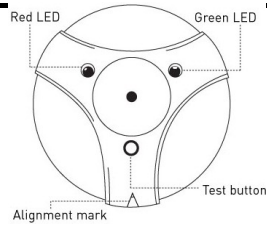

Figure 1
1. Push the test button for 2 seconds and then release it. The red LED will light while the button is pressed. The green LED will blink once to indicate that the unit is in auto test mode for 90 seconds (see Figure 1).
2. Activate a glass break simulator in the area of the window or windows that you are attempting to protect with the glass break detector. The Glass Break Detector should first acknowledge the detection of a thud sound by illuminating the green LED and then illuminate the red LED when the unit detects the crash portion of the glass breaking sound (see Figure 1).
Push and hold the test button for 5 seconds and then release it. The red LED will light while the button is pressed. The green LED will blink twice to indicate that the unit is in RF test mode for 90 seconds (see Figure 1).